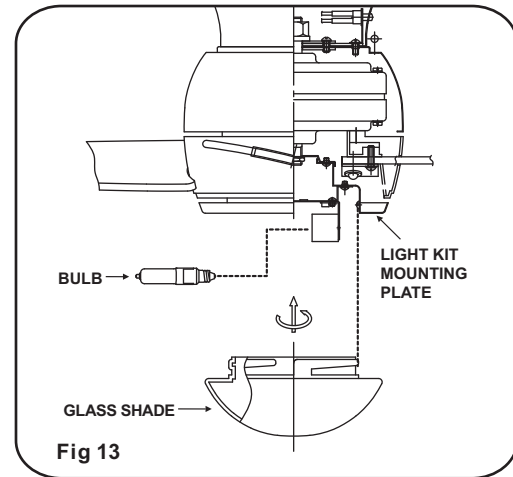

Fig 13
Step 2. Raise glass shade up against bottom of fan housing and secure it to the fan by turning the glass shade clockwise until snug. **DO NOT OVERTIGHTEN.** (Fig. 13)